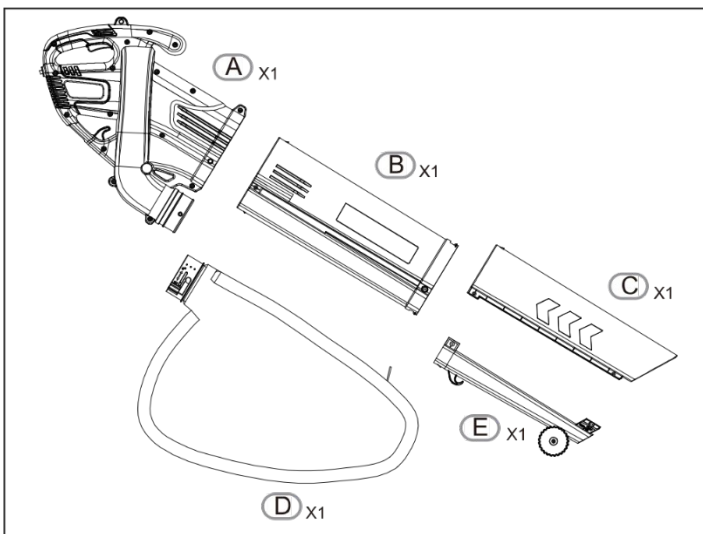
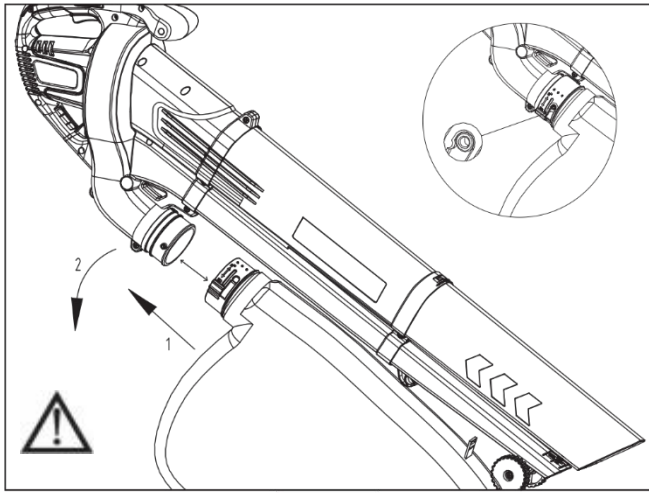

Fig. 1
Fig. 2
### Assembling the blower tube (Fig. 1, Fig. 2)
1. Align the lower tube (E & C) to the upper tube assembly (B). First insert the lower tube (E&C) all the way to the stop. Use a flat head screwdriver to secure the connection with 4 security screws, 2 on each side. ( Fig.1)
2. Align the assembled tubes to the main unit(A) and insert them all the way to the stop. Use 1 security screw on the left side and 1 cross head screw on the right side to secure the connection (Fig 1 ).
3. Insert the hanging loop of collection bag into hook (Fig. 2).